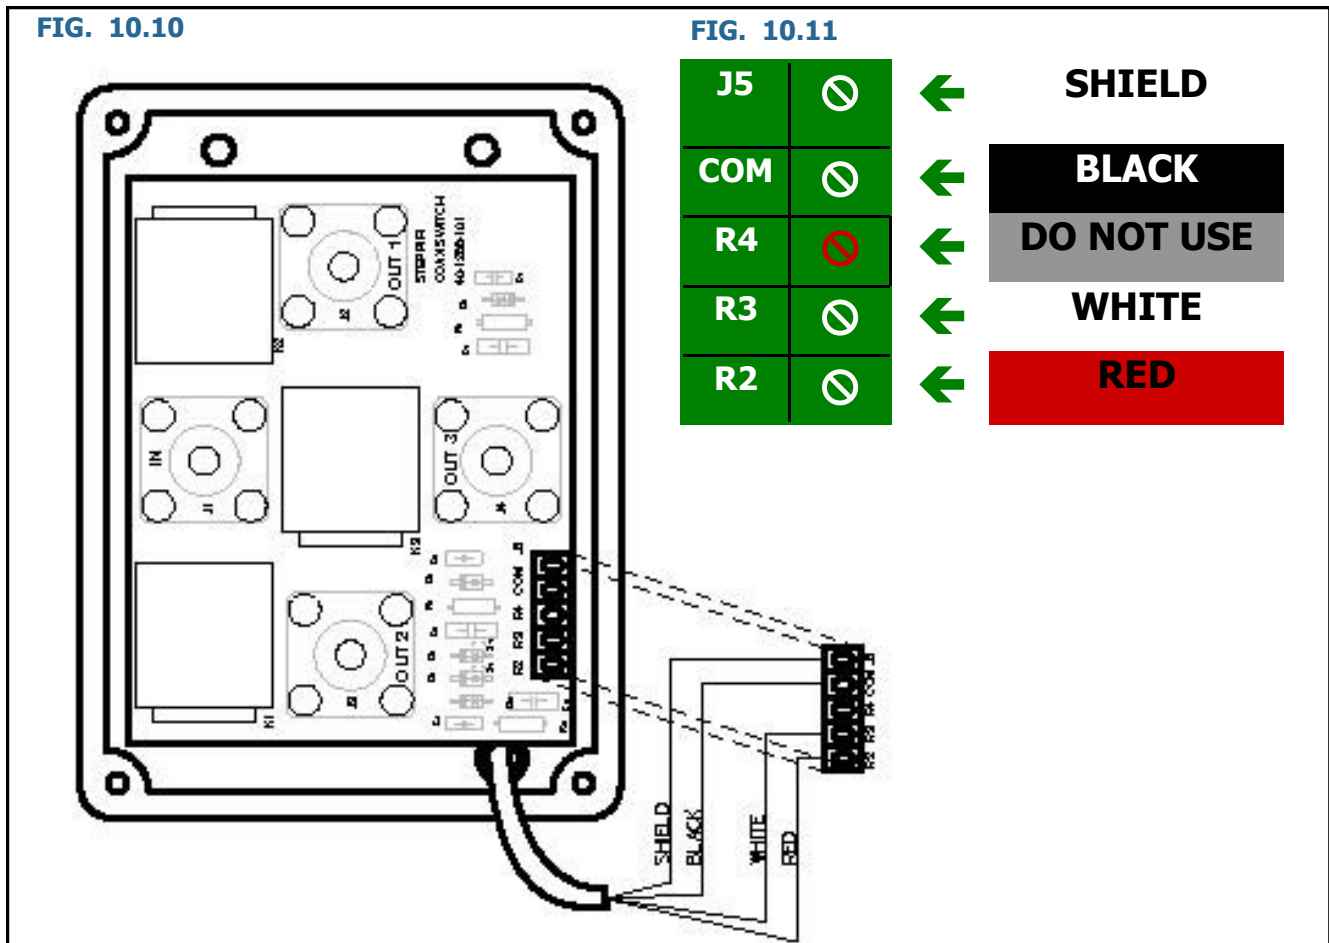

FIG. 10.12
- Always dip your bare copper wire ends into the provided connector protector before securing to the terminal connections. Insert wires as shown in figure 10.12.